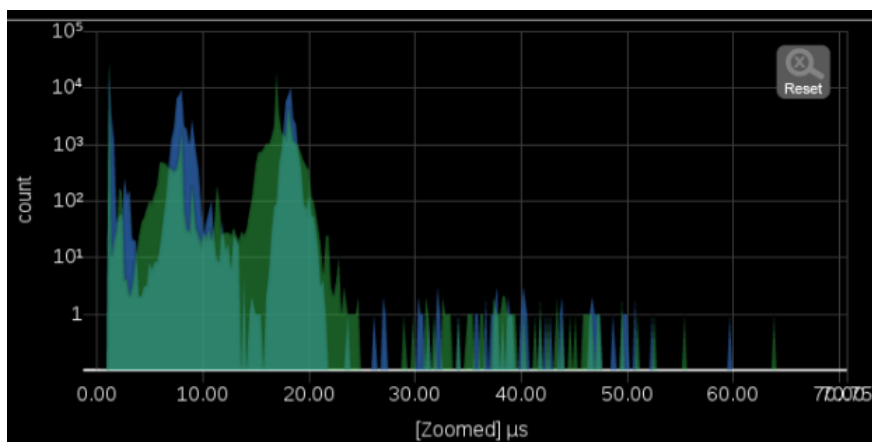

Figure 177: Zooming in on the PIT Histogram graph
- **Pinch and zoom control:** Use the pinch-out gesture on the graph to zoom in. After using the zoom in gesture, the text **Zoomed** will be displayed on the x axis of the graph. (See Figure 177.)